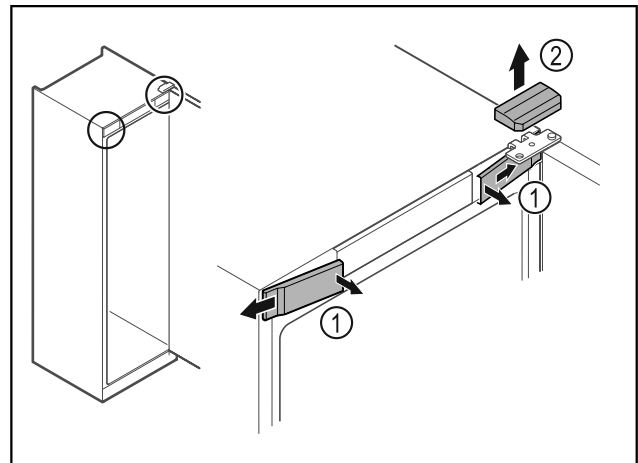

Fig. 6
- ▶ Unlatch the front covers Fig. 6 (1) on the inside and remove them sideways.
- ▶ Lift off the upper cover Fig. 6 (2).